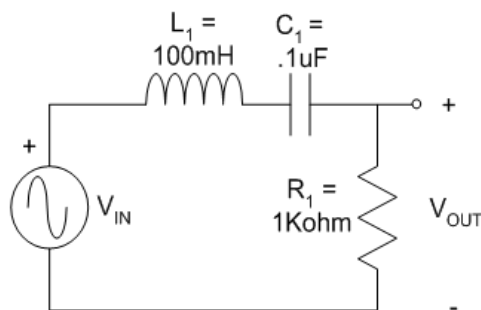

Figure 5.9: Mystery Filter Two
7. Connect the circuit in figure 5.9 and measure both the input voltage, V_{IN} , and the output voltage, V_{OUT} , on the oscilloscope. For V_{IN} use an 8VPP sine wave at a starting frequency of 10 Hz.
9. Once you have found the corner frequencies of the circuit in Figure 5.9, plot the magnitude of V_{OUT} and phase response of the range of frequencies from 10Hz to 300kHz. Fill in table 5.3 with your calculations then plot your results on a separate sheet of paper. Use logarithmic scale for frequency axis.